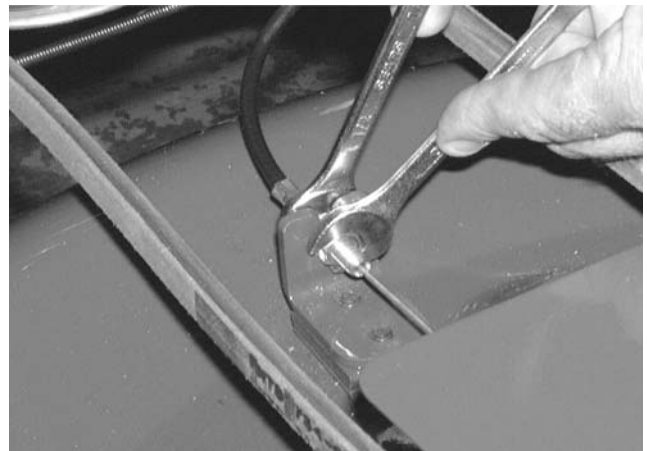

**Figure 8-13.**
5. Take hold of the deck engagement belt and try to pull it forward or backward. See Figure 8-13.